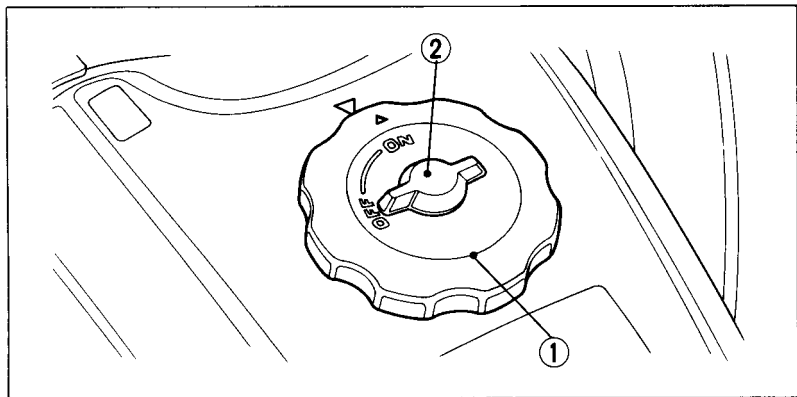

Fig. 2-22 (1) Fuel tank cap (2) Fuel cap vent lever
The fuel tank cap (Fig. 2-22) has a fuel cap vent lever (2) with ON and OFF positions. The lever should be turned to ON to allow fuel to flow when running the engine. Turn the vent lever to OFF to prevent fuel from flowing out the vent hole when transporting the TRX300.